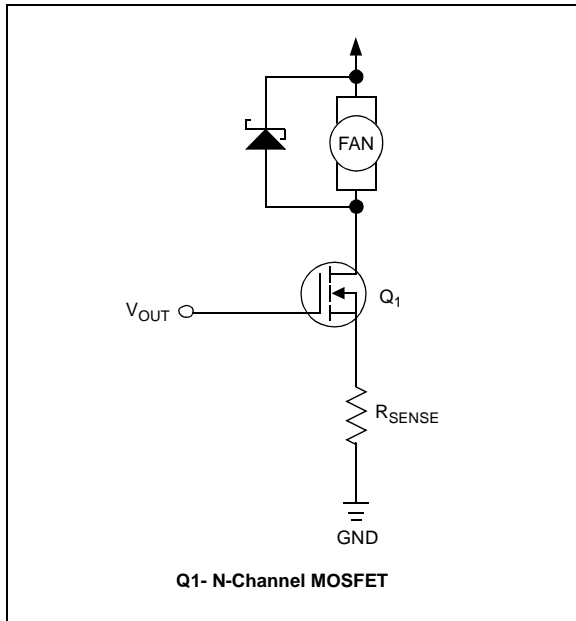

FIGURE 7-8: Clamp Diode For Fan Turn-Off.
- Ask how the fan is designed. If the fan has clamp diodes internally, you will not experience this problem. If the fan does not have internal clamp diodes, it is a good idea to put one externally (Figure 7-8). You can also put a resistor between V_{OUT} and the gate of the MOSFET, which will help slow down the turn-off and limit this condition.